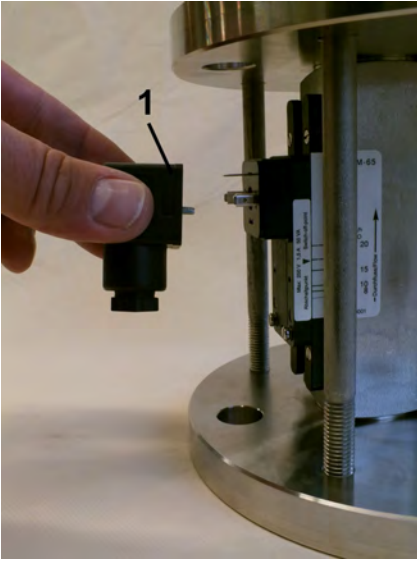

Fig. 74: Remove the female socket
- 2.** ➤ Remove the female socket and gasket (Fig. 74/1)